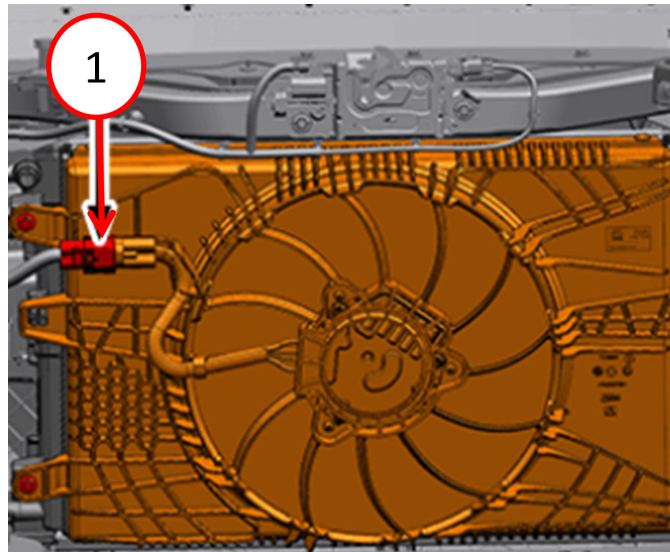

Fig. 1
4. Disconnect the cooling fan wire harness connector Fig. 1.
22. Connect the cooling fan wire harness connector Fig. 1.